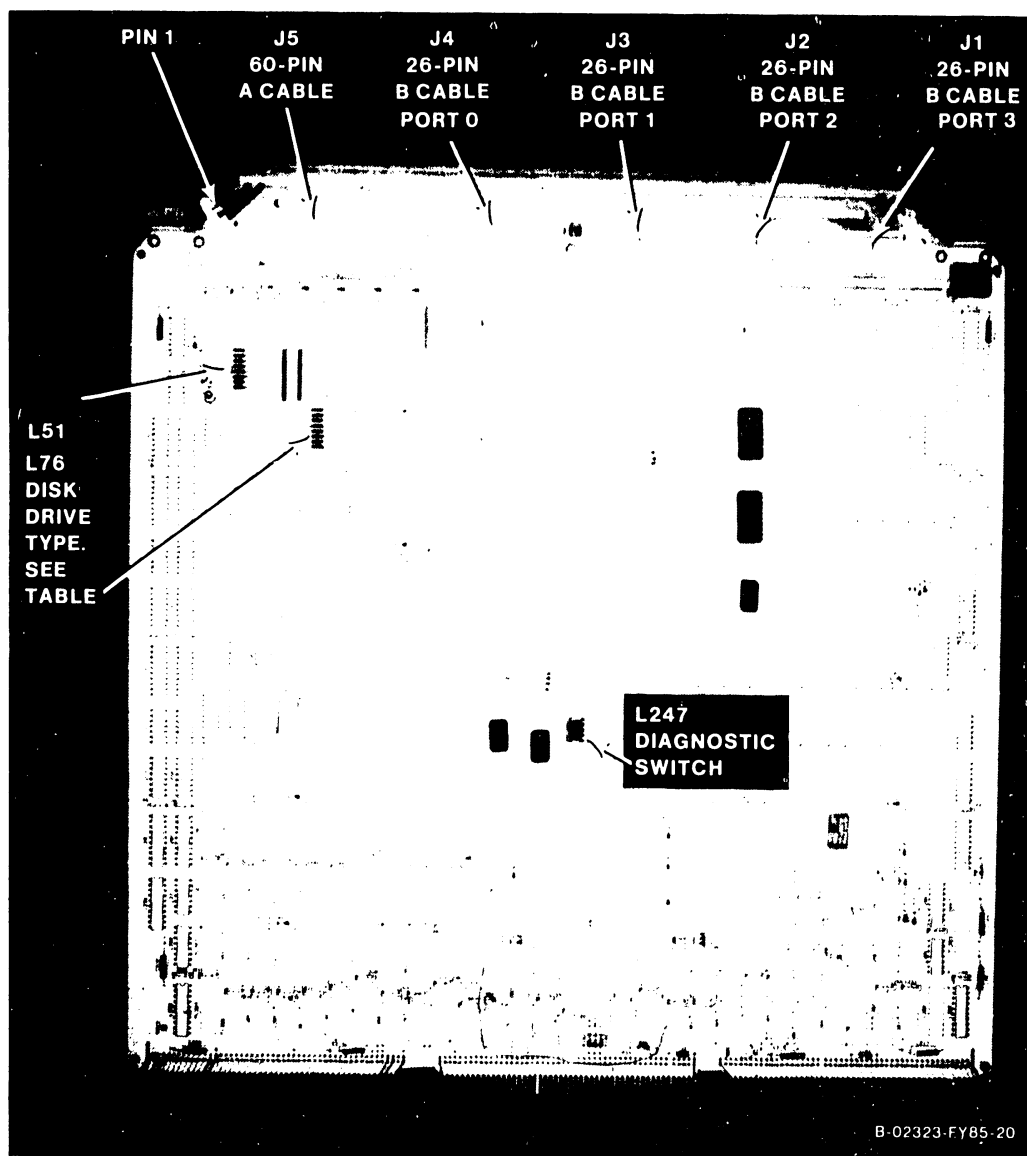

Figure 7-26. 23V98 Disk Drive IOC
1. Disconnect all cables from the top of the 23V98 Disk Drive IOC (figure 7-26). Note the position of all cables for later reassembly.
3. Check the device type switches (figures 7-26 and 7-27, and table 7-5). The two 8-position disk device type switches, SW1 (L76) and SW2 (L51), define the type of drive connected to the 23V98 IOC, ports 0-3. Set the switches for the type of drive(s) connected to the IOC.